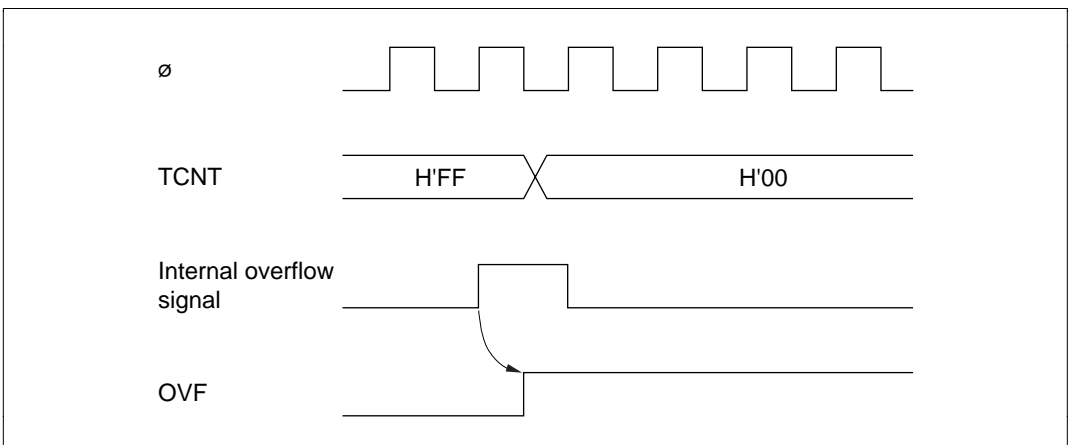

Figure 9-8 Setting of Overflow Flag
(1) **Setting of TCSR Overflow Flag (OVF):** The overflow flag (OVF) is set to 1 when the timer count overflows (changes from $H'FF$ to $H'00$). Figure 9-8 shows the timing of this operation.